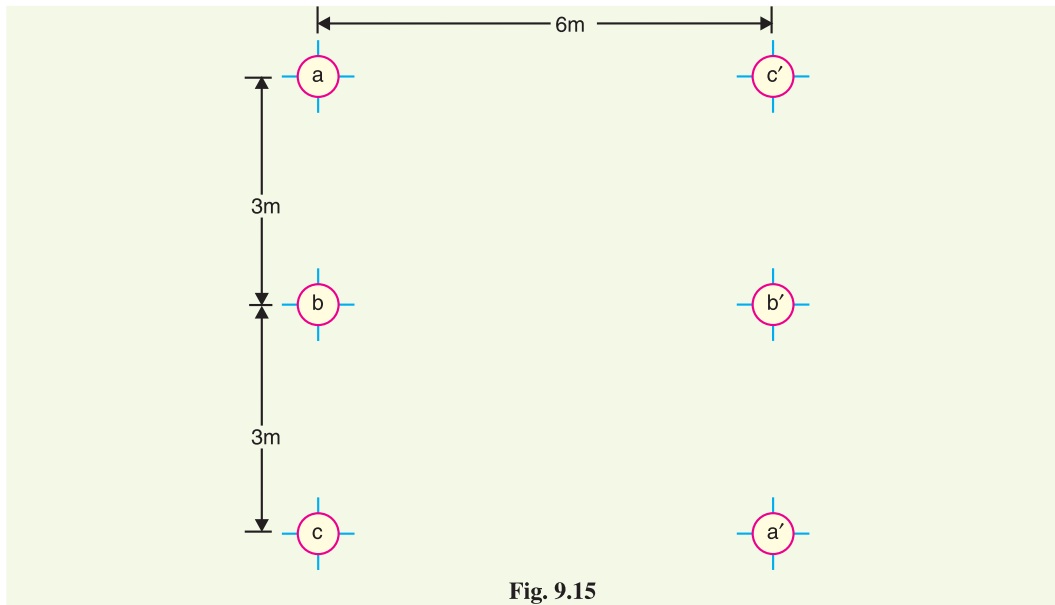

Fig. 9.15
**Example 9.7.** Fig. 9.15 shows the spacings of a double circuit 3-phase overhead line. The phase sequence is ABC and the line is completely transposed. The conductor radius is 1.3 cm. Find the inductance per phase per kilometre.